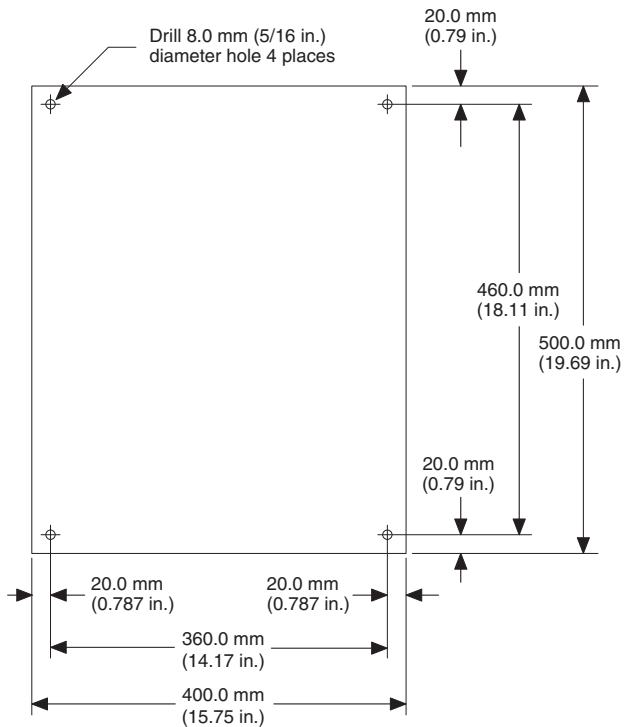

Figure 1 Dimensions SYS N4... enclosures
1. Drill 5/16-in. or 8-mm holes in the mounting surface. Refer to Figure 1 for dimensions.